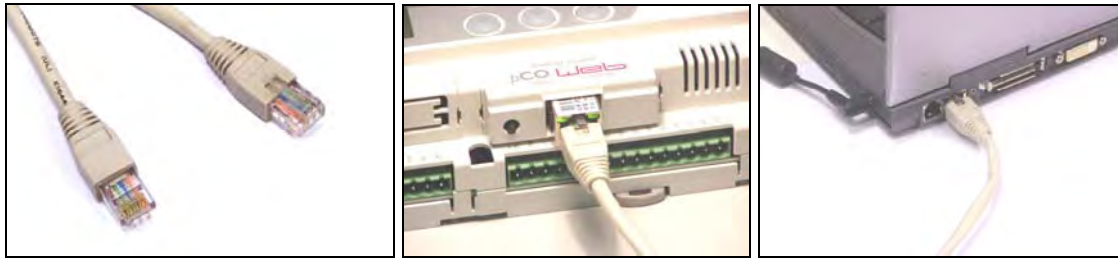

Figure 3.f – *pCOWeb* - PC connection
1. Connect *pCOWeb* to the Ethernet connector on the PC using a crossover cable (Figure 3.f below).